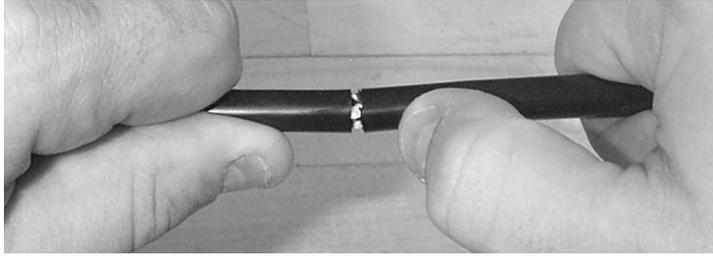

Figure 18 – Flex the cable at the score mark to separate the outer jacket.
5.3 Using a circular motion, gently flex the cable at the score mark to separate the outer jacket (Figure 18). Be careful not to violate the minimum bend radius of the cable.